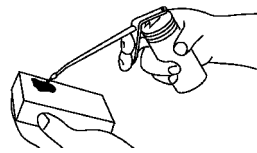

Figure 27
5. Saturate the air filter with SAE 30W oil (Fig. 27).